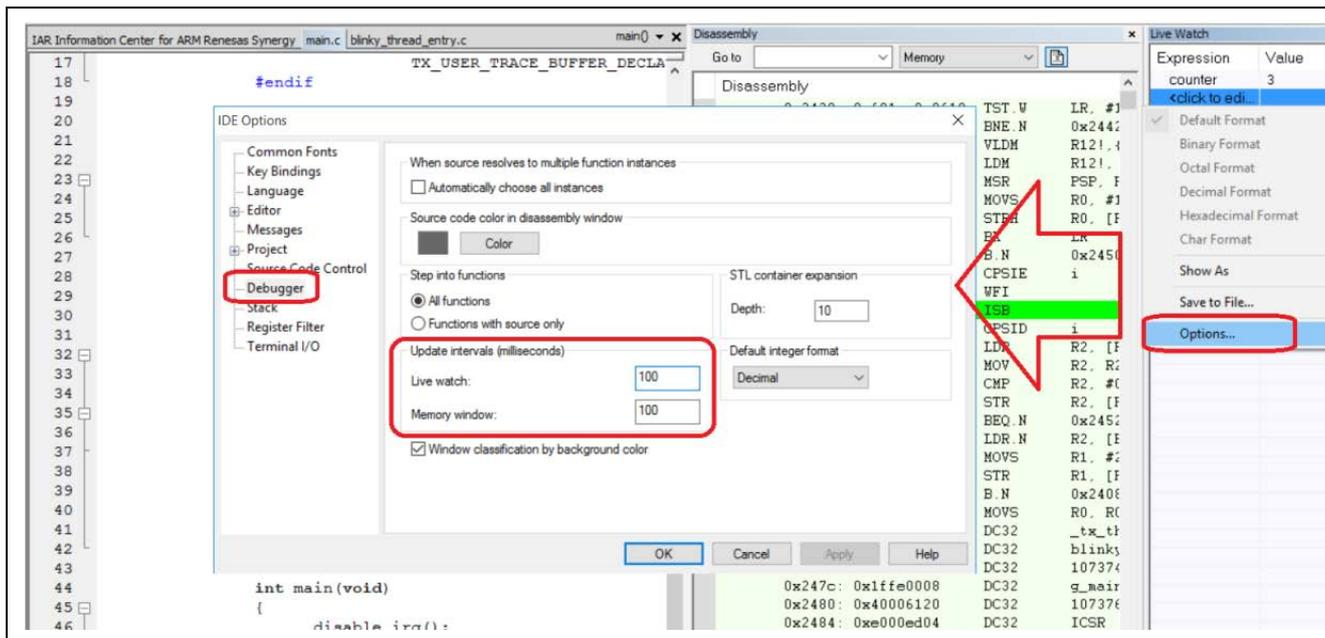

Figure 11 Updating Live Watch interval
6. **Double click** on the `blinky_thread_entry.c` file in the **Project Explorer**. If this is a new **Blinky Project** or you don't see the counter variable, add the below code at mentioned positions in `blinky_thread_entry.c`. A simple counter will be incremented in the **while loop** like the print screen in Figure 11 below.